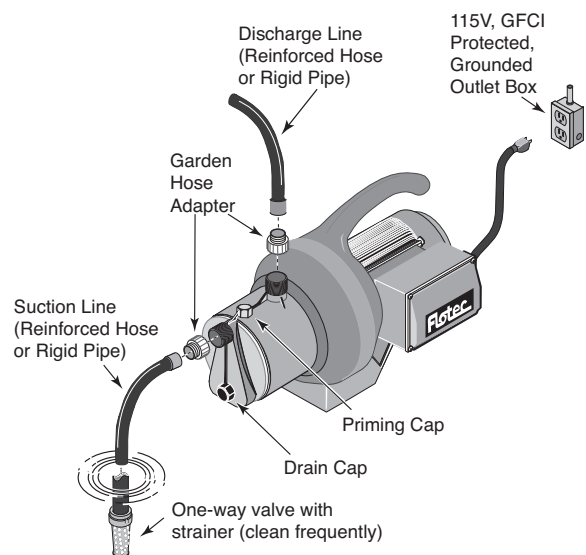

Figure 1 – Typical Installation
Both the suction and discharge ports are tapped for 1" MNPT threads. If using hoses, use a hose adapter. See Figure 1. Do not use a hose on the suction if pumping from lakes, streams or ponds. The hose will collapse and cause pump failure. Install a strainer with the foot valve on the end of the suction line. Inspect and clean the strainer frequently (Figure 1).
- ◆ When using a garden hose, install adapters on the pump suction and the discharge. The suction hose will require two female ends. Use a standard washing machine supply hose as a suction line (Figure 1).